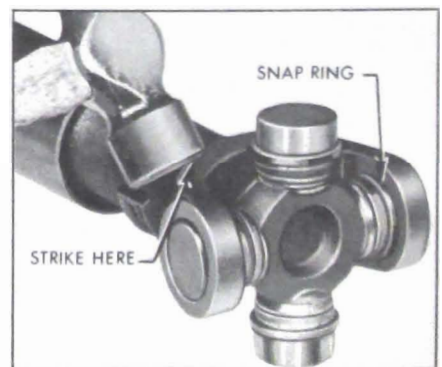

Figure 6-62—Seating U-Joint Snap Rings
4. Strike the yoke with a hammer to fully seat the snap rings against the yoke. Turn the spider to make certain that it is free. See Figure 6-62.